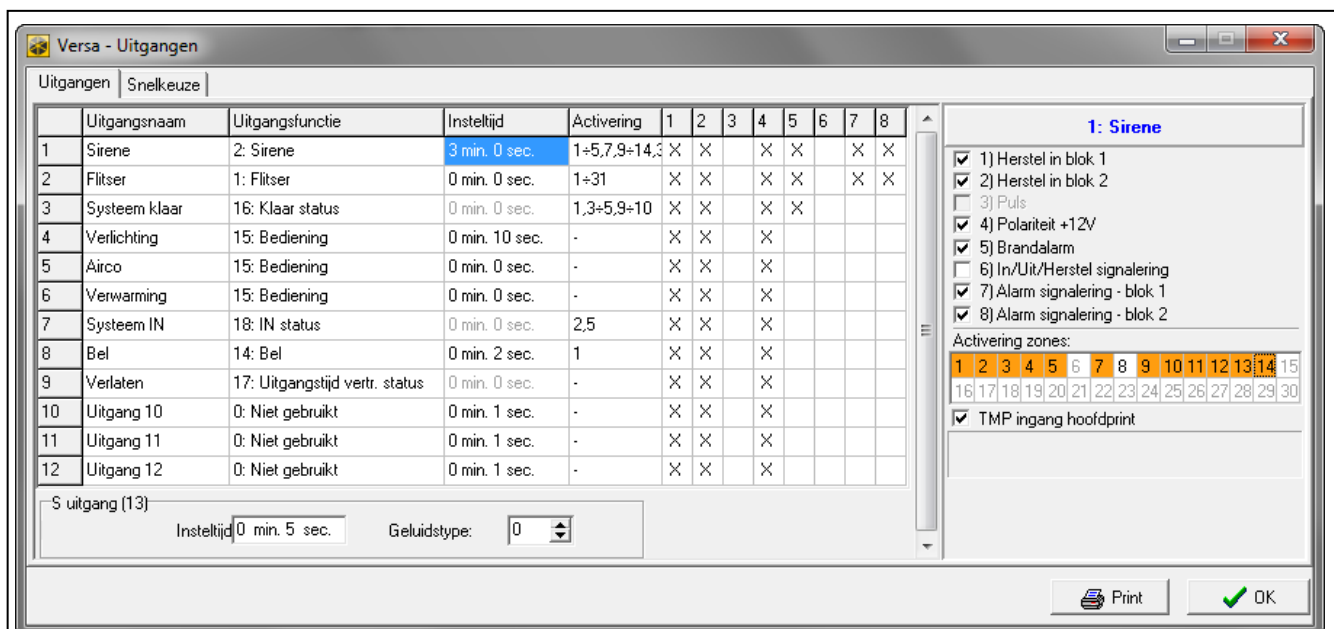

Fig. 10. DLOADX programma: “Versa – Uitgangen” scherm.
- DLOADX programma: “Versa – Uitgangen” scherm (Fig. 10).